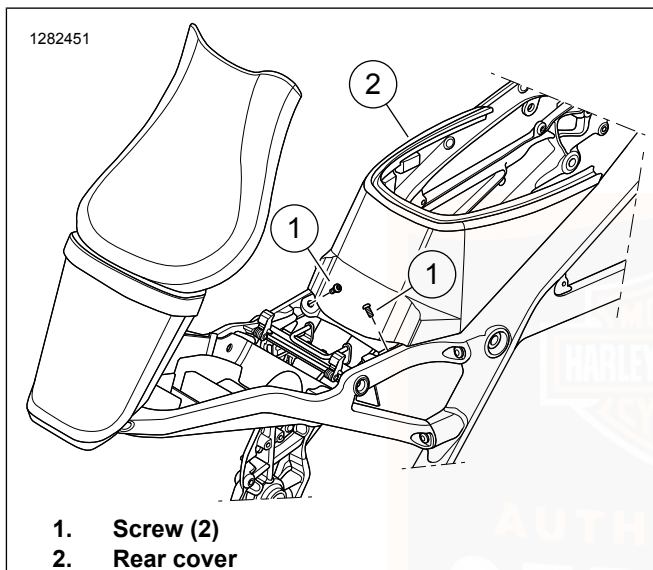

Figure 27. Rear Cover
7. See Figure 27. Remove rear cover.